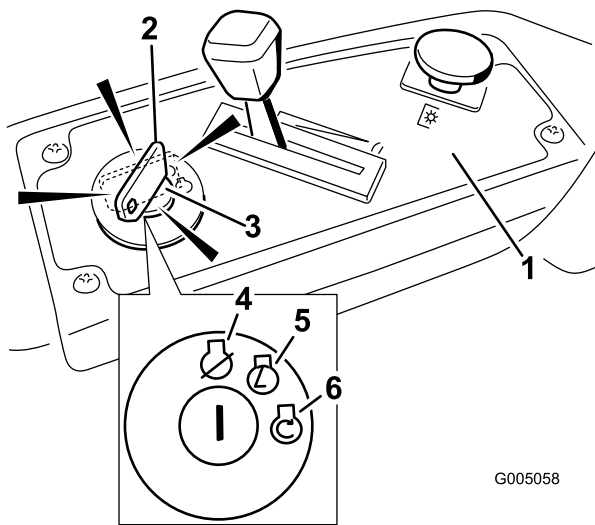

Figure 10
3. Move the throttle lever to Choke before starting a cold engine (Figure 10).
4. Turn the ignition key to Start to energize the starter. When the engine starts, release the key (Figure 10).
5. After the engine starts, move the throttle lever to Fast (Figure 10). If the engine stalls or hesitates, move the throttle lever back to Choke for a few seconds. Then move the throttle lever to the desired setting. Repeat this as required.
2. Move the throttle lever to between Fast and half throttle (Figure 10).